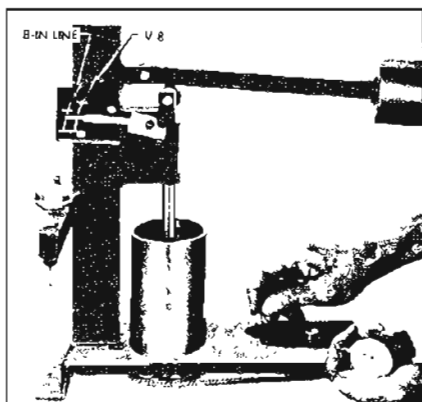

Figure 2-38—Checking Leakdown Rate
to see that the gasket is installed with the three intake manifold ports aligned with the head and manifold. The gasket should be installed as shown in Figure 2-38 on the left side and reversed for right side installation.
6. Raise weight arm to allow the lifter plunger to come up to its retainer, then lower the arm to rest on the ram roller. As the pointer starts moving upward start rotating the fluid cup by turning the handle one revolution every two seconds. See Figure 2-38.
7. Use a stop watch to check the time required for pointer to move from the lower to the upper mark on scale where marked "BUICK V-8." The cup must be rotated during this test. See Figure 2-38.
4. Lube the bolt threads before installation and install them as shown in Figure 2-38.